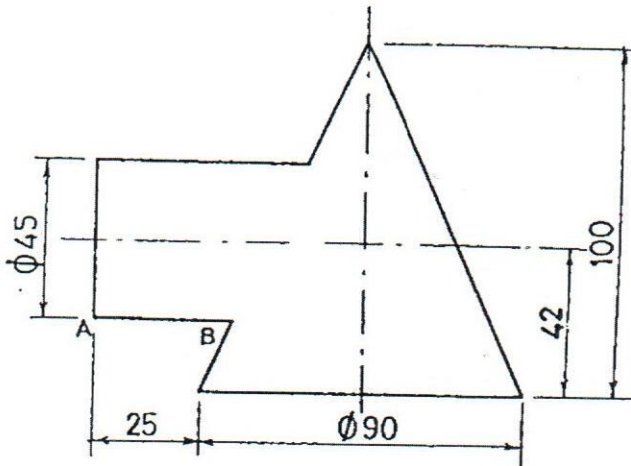

FIG 3
15. The figure 3 below shows a cone intersecting a cylinder at right angle. (20 Marks)